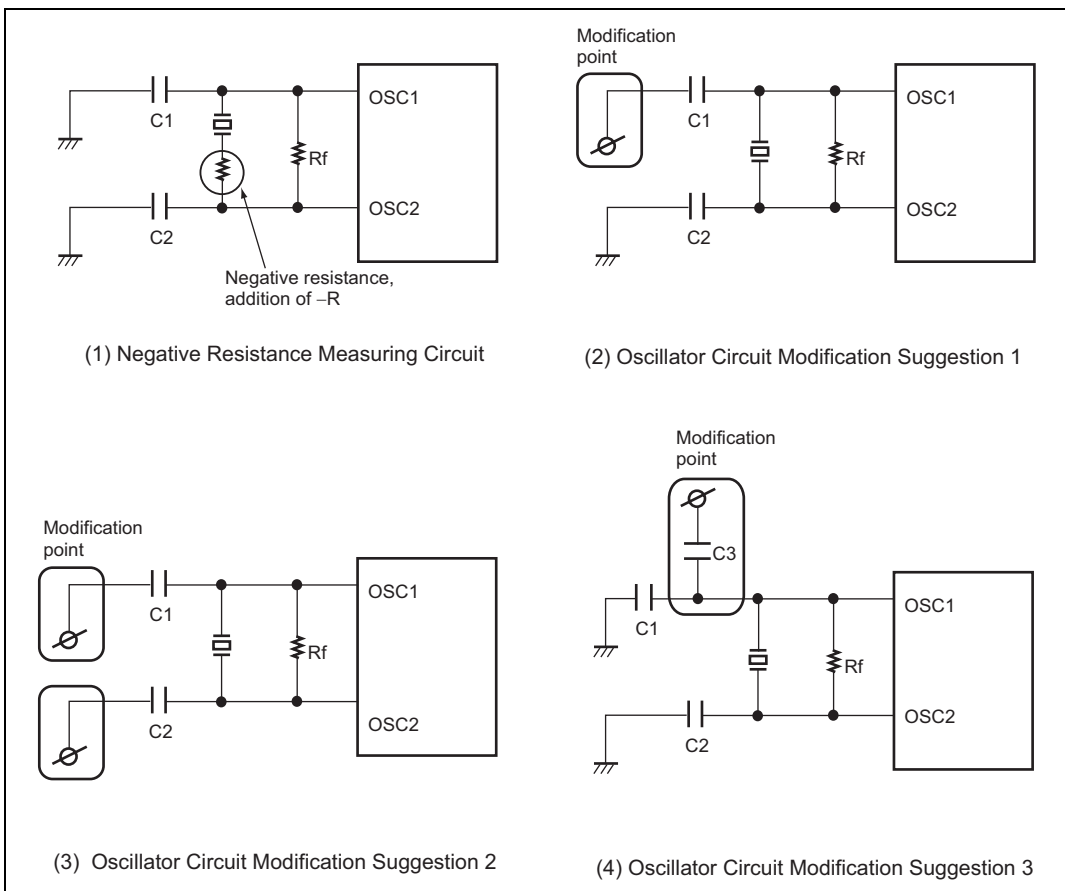

Figure 4.13 Negative Resistance Measurement and Circuit Modification Suggestions
Figure 4.13 (1) shows an example measuring circuit with the negative resistance suggested by the resonator manufacturer. Note that if the negative resistance of the circuit is less than that suggested by the resonator manufacturer, it may be difficult to start the main oscillator.
If it is determined that oscillation is not occurring because the negative resistance is lower than the level suggested by the resonator manufacturer, the circuit may be modified as shown in figure 4.13 (2) through (4). Which of the modification suggestions to use and the capacitor capacitance should be decided based upon an evaluation of factors such as the negative resistance and the frequency deviation.
As shown in figure 4.13, as the system clock oscillator is halted in standby mode, watch mode, and subactive mode, when a transition is made to active (high-speed/medium-speed) mode, the sum of the following two times (oscillation stabilization time and wait time) is required.